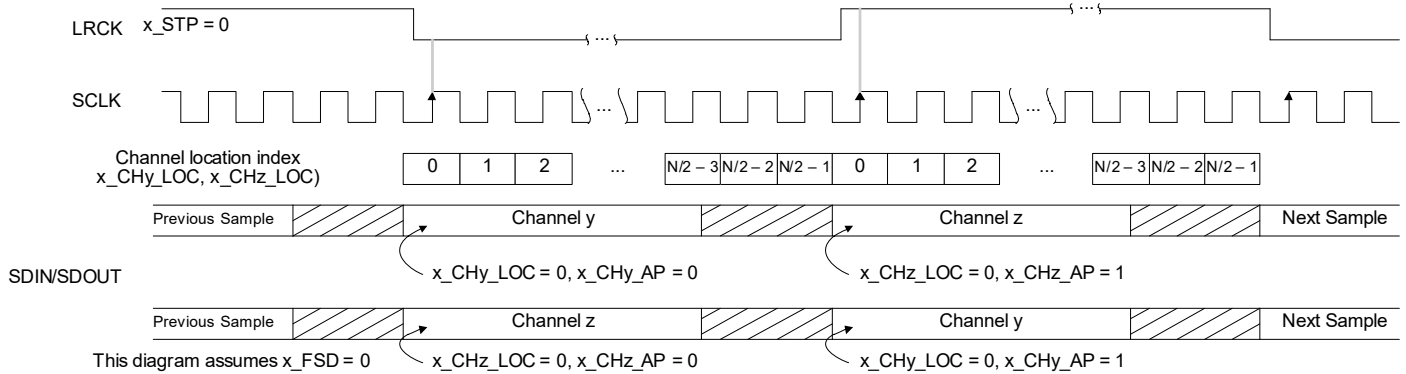

Figure 4-37. Example 50/50 Mode (`ASP_STP = 0`)
- If `ASP_STP = 0`, the frame begins when LRCK/FSYNC transitions from high to low. See Fig. 4-37.